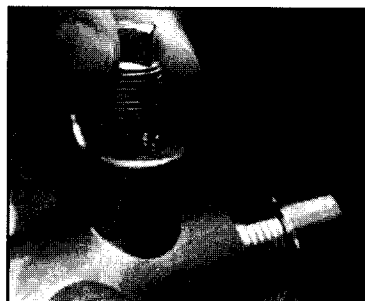

Figure 2 - Removing the Brass Plug
3. Use a Crescent or Pipe Wrench to remove the brass plug from the outlet combination fitting. See Figure 2.